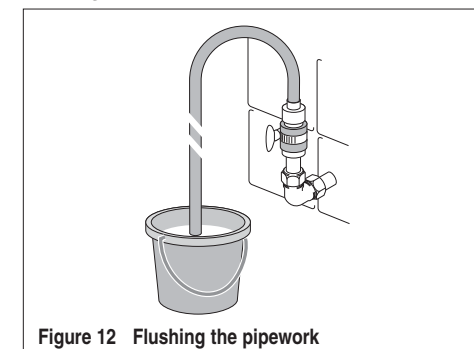

Figure 12 Flushing the pipework
6.15 It is essential to flush the pipe in order to clear debris, particles of solder and swarf - see Fig. 12.